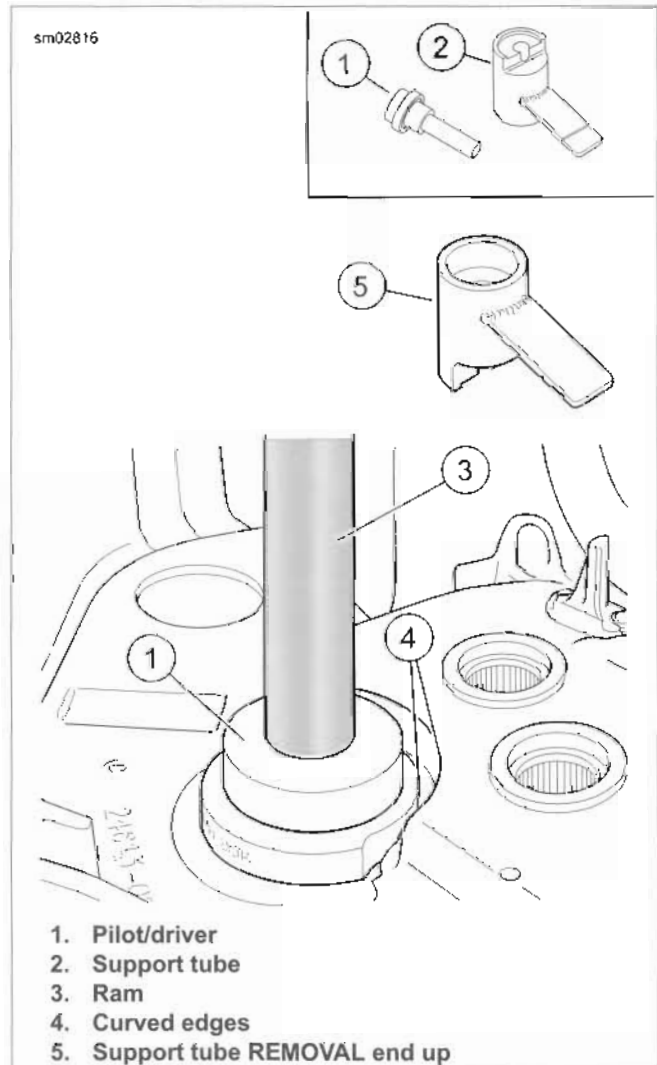

Figure 3-131. Right Main Bearing Removal
- See Figure 3-131. Obtain CRANKSHAFT (ROLLER) BEARING REMOVAL/INSTALL PILOT/DRIVER (Part No. HD-44065-1) and CRANKSHAFT (ROLLER) BEARING REMOVAL/INSTALL SUPPORT TUBE (Part No. HD-44065-4).
- Place support tube (2) on press table with the REMOVAL end up. Note that the support tube is stamped to provide proper orientation.
- With the cam compartment facing downward, position crankshaft bearing bore over support tube. Verify the curved edges on pilot/driver (1) match the curved edges of crankcase (4) or damage will result.
- Slide pilot/driver (1) through bearing into support tube.
- Center pilot/driver under ram (3) of press. Apply pressure to pilot/driver until bearing is free.